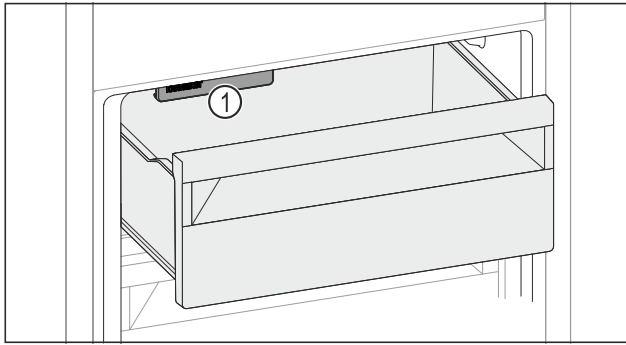

Fig. 205
- ▶ Watch out for the IceMaker Fig. 205 (1).